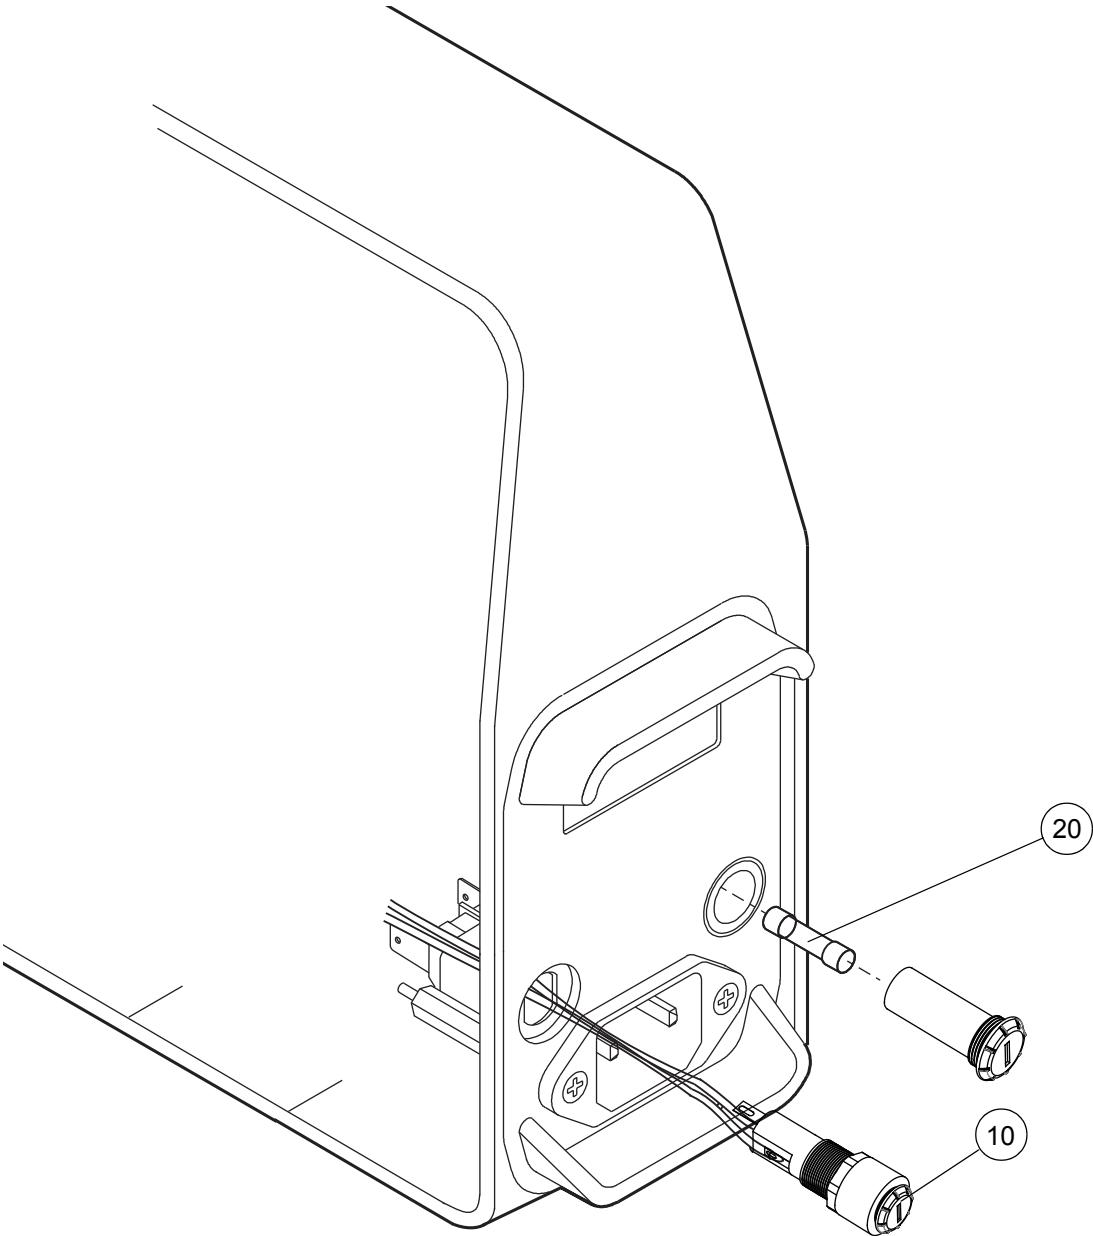

Figure 20 - Replacing the Mains/Power Inlet Fuses and the Fuse Holders
- 25.1 Unscrew the Fuse Holder Inner and remove the Fuse (Fig 20, Item 30).
- 25.2 Install the Fuse (Fig 20, Item 30) into the Fuse Holder Inner and screw into the Fuse Holder.
- 26.3 On the inside of the pump casing, pull the Fuse Holder Cover off of back the Fuse Holder (Fig 20, Item 10 or 20).
- 26.4 Clamp the triangular flaps on the Fuse Holder (Fig 20, Item 10 or 20) and ease it out of the pump casing.
- 26.5 Ease the Fuse Holder Cover through the hole in the pump casing and remove the Fuse Holder (Fig 20, Item 10 or 20).